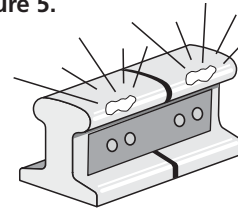

FIGURE 5
**WARNING:** The area of the rail head to be bonded must be lightly ground to a bright finish with no visible scratch marks or gouges (normal uniform finishing marks are acceptable). Failure to observe this may result in visible scratches or gouges due to overly aggressive grinding that are potential crack initiators and that may lead to rail breaks causing derailment accidents with property damage, injury and death to others. **See Figure 5.**